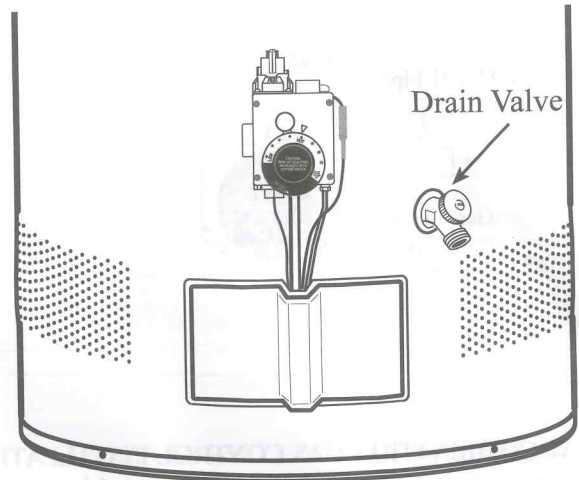

Figure 2
- 2. DRAINING THE WATER HEATER:** Shut off the inlet water supply to the water heater. Connect one end of a garden hose to the water heater's drain valve and route the other hose end to a drain or suitable draining area. Open a hot water faucet to allow air to flow into the water heater tank then open the water heater's drain valve. See Figure 2.